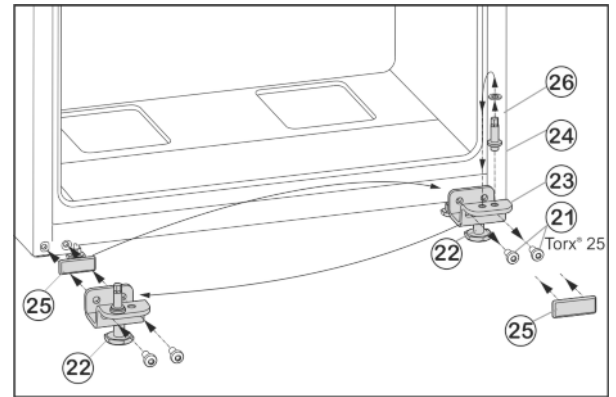

Fig. 6
- ▶ Unscrew fastening screws Fig. 6 (21).
- ▶ Remove the lower bearing block Fig. 6 (23), complete with bearing bolt Fig. 6 (24), washer Fig. 6 (26) and adjustable foot Fig. 6 (22).
- ▶ Unscrew the bearing bolt Fig. 6 (24), complete with washer Fig. 6 (26), re-locate it into the mounting hole on the opposite side of the bearing block and tighten again.
- ▶ Carefully remove the cover plate Fig. 6 (25) and re-locate it to the other side.
- ▶ Fasten the lower bearing block Fig. 6 (23), complete with bearing bolt Fig. 6 (24), washer Fig. 6 (26) and adjustable foot Fig. 6 (22) to the new hinge side, with the help of a cordless screwdriver if necessary, and **tighten (with 4 Nm)** once again.
- ▶ Lower the bottom door onto the bearing bolt Fig. 6 (24).
- ▶ Unscrew the adjustable foot Fig. 6 (22) on the lower bearing block Fig. 6 (23) until it reaches the floor.